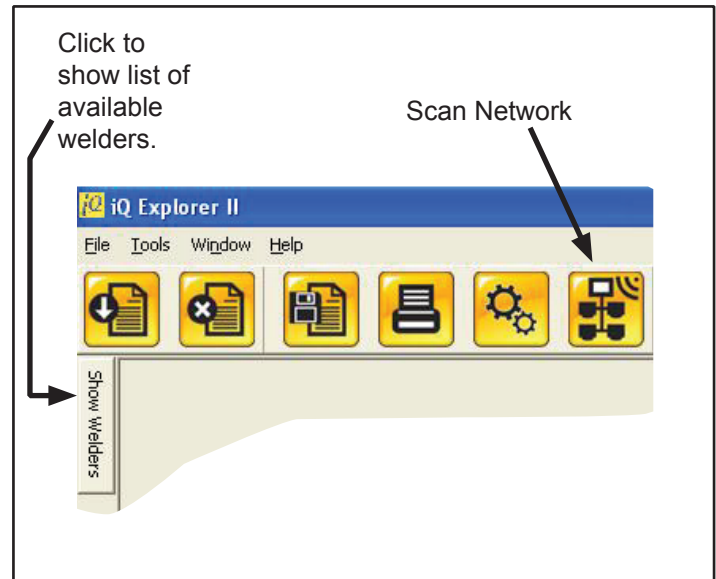

Figure 3-3 Show Welders - 1
2. When connection has been made, the welder(s) available to the software are shown when the user presses the **Show Welders** button on the toolbar on the left of the application. See Figure 3-3 to the right.